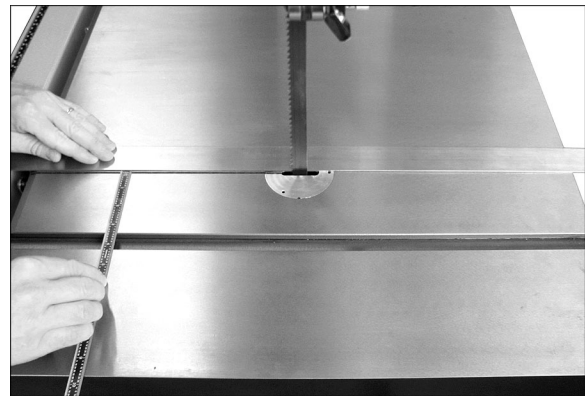

Figure 9
Refer to Figures 9 and 10.
3. Place a long straightedge flush against blade, making sure it contacts both front and back of blade. (Do not deflect blade by pushing into it.) See Figure 9.